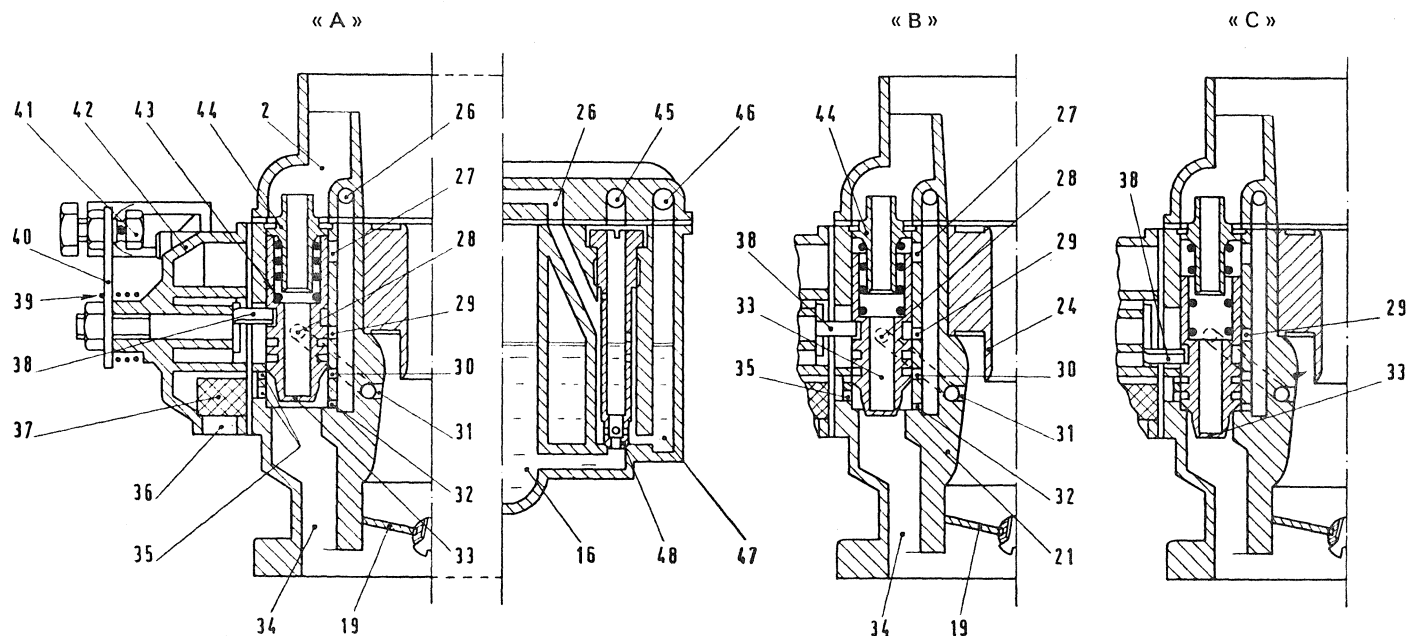
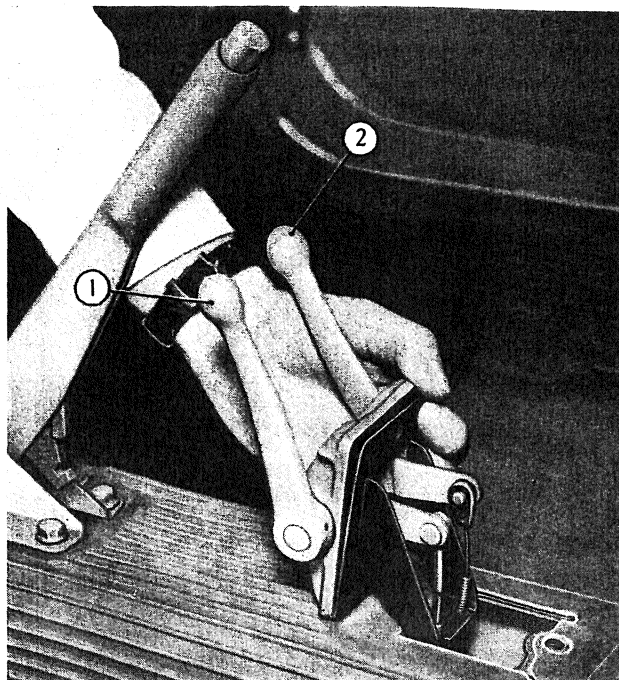

Fig. 151 - Starting device (choke) diagrammatic section.
Fig. 156 - Control levers on floor tunnel (during removal).
This device has the function of ensuring proper engine cold starting. It is controlled by means of the left lever (2, fig. 156) placed behind the gearbox lever and must be progressively set back to rest position as engine is reaching the rated operating temperature. The starting device (fig. 151) is made up of valve (33) actuated by the lug of rocker (38) connected, through a suitable shaft, to control lever (40). By pulling the device control to stroke end valve (33) is lifted from its seat and brought in the «fully open» position (diagram «A», fig. 151) Under these conditions valve (33) closes air orifice (27) and transition mixture orifice (29) and uncover:
a greater amount of air to enter through the hole of spring guide (44) (to weaken the mixture) while, by closing progressively orifices (30) and (32) and air orifices (35), also the amount of mixture is reduced. This way, the mixture title and amount is reduced proportionally to the amount the device is inserted (see diagram « B », fig. 151).
When the starting device is excluded, valve (33) covers also orifice (29) and prevents the entrance of mixture (diagram « C », fig. 151).